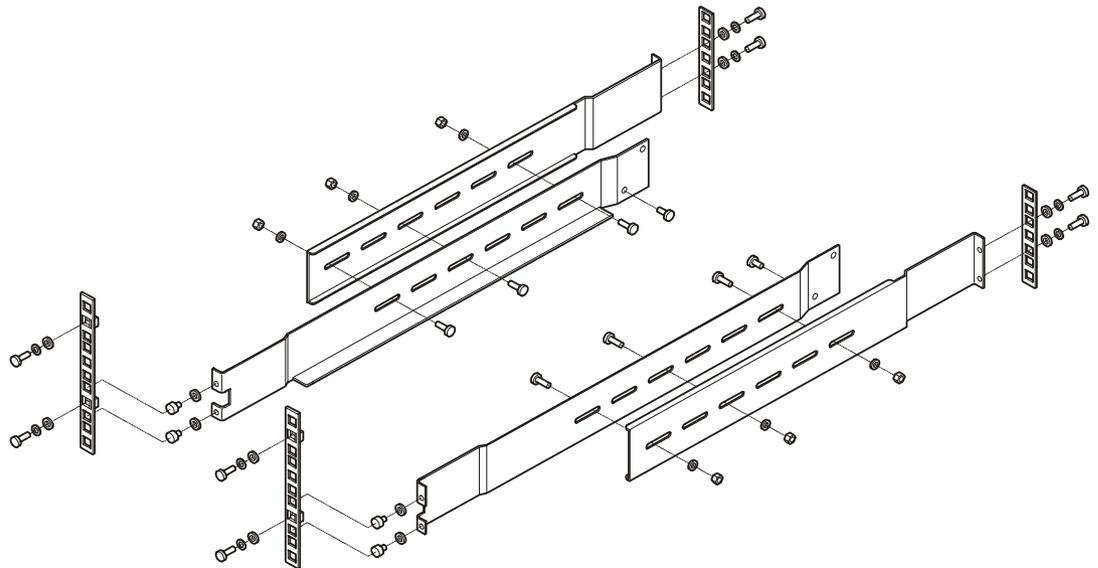

Figure 2–2 Rack Mounting Rail Kit
Before you begin installation you should become familiar with the configuration requirements of your RR-1422-LVD system, detailed in Table 2–1. The correct positions of each of the optional plug-in modules are shown in Figure 2–1.
- 2 With the PSU handle in the open position (Figure 2–3), slide the module into the enclosure (Figure 2–4).
- 3 Cam the module home by manually closing the PSU handle (Figure 2–5). A click should be heard as the handle latches engage.